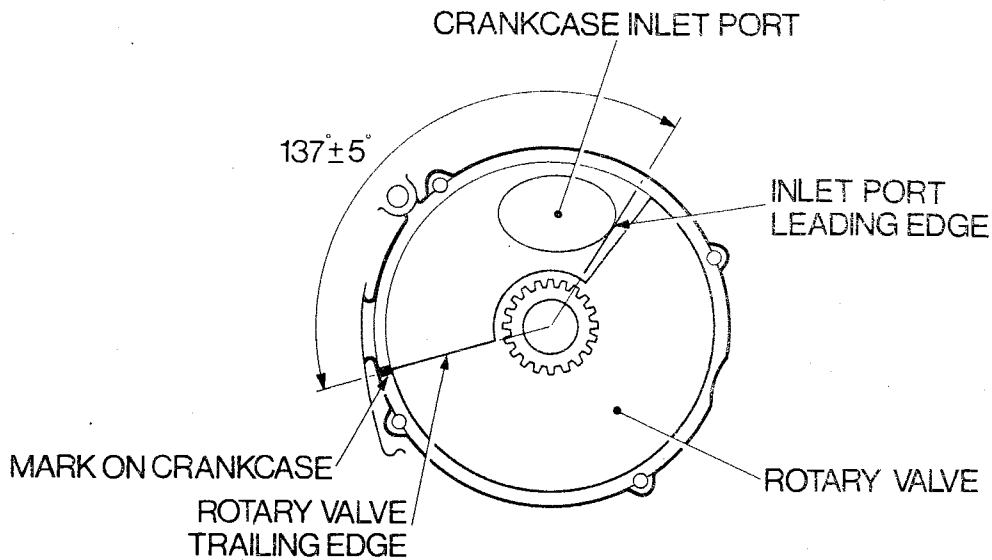

Figure 1.5 - Rotary Valve Timing (A)
- a. Using a degree wheel, mark 137° after the opening of the inlet port (anti-clockwise). See Figure 1.5.